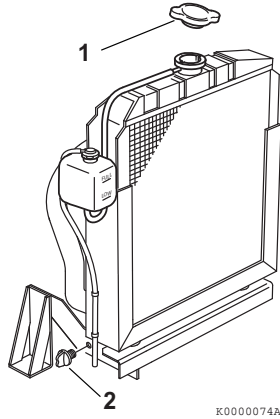

Figure 19
2. Remove the radiator cap (**Figure 19, (1)**).
3. Remove the drain plug or open the drain valve (**Figure 19, (2)**) at the bottom of the radiator and drain the engine coolant.